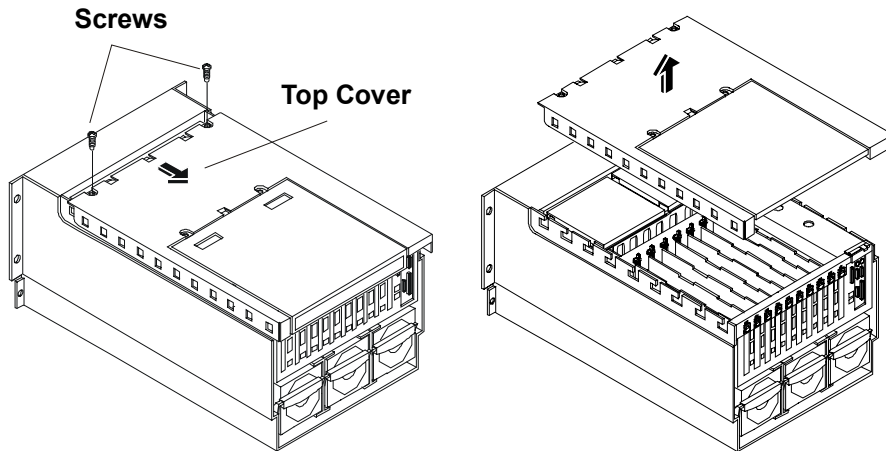

Figure 2-5. Removing the Entire Top Cover (HP NetServer LXR 8500 Shown)
1. Remove the two screws at the front of the cover, then slide the cover back approximately one half-inch (1 cm), as shown in Figure 2-5.
2. Lift off the top cover, as shown in Figure 2-5.